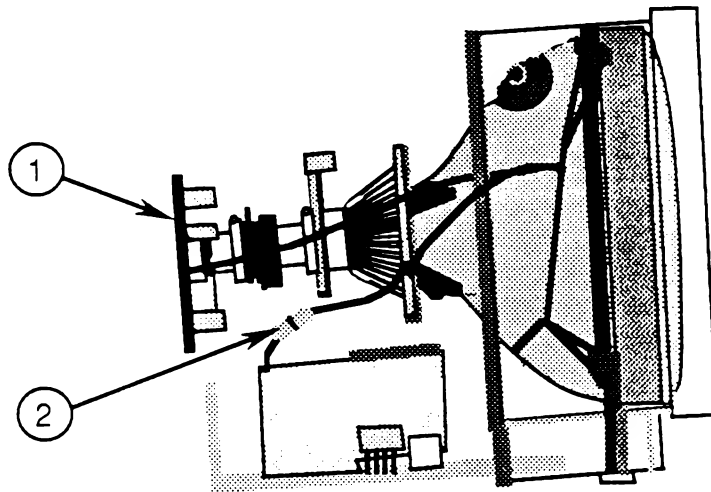

FIGURE 14
4. Carefully pull the CRT board (Figure 14, #1) off the neck of the CRT.
6. Disconnect the white CRT ground wire from its plug-in connector beneath the CRT neck (Figure 14, #2).